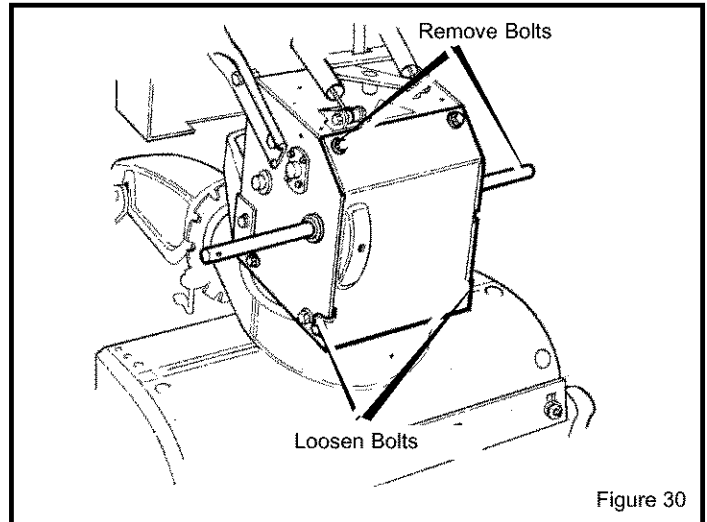

Figure 30
1. Remove bottom panels (Figure 30).